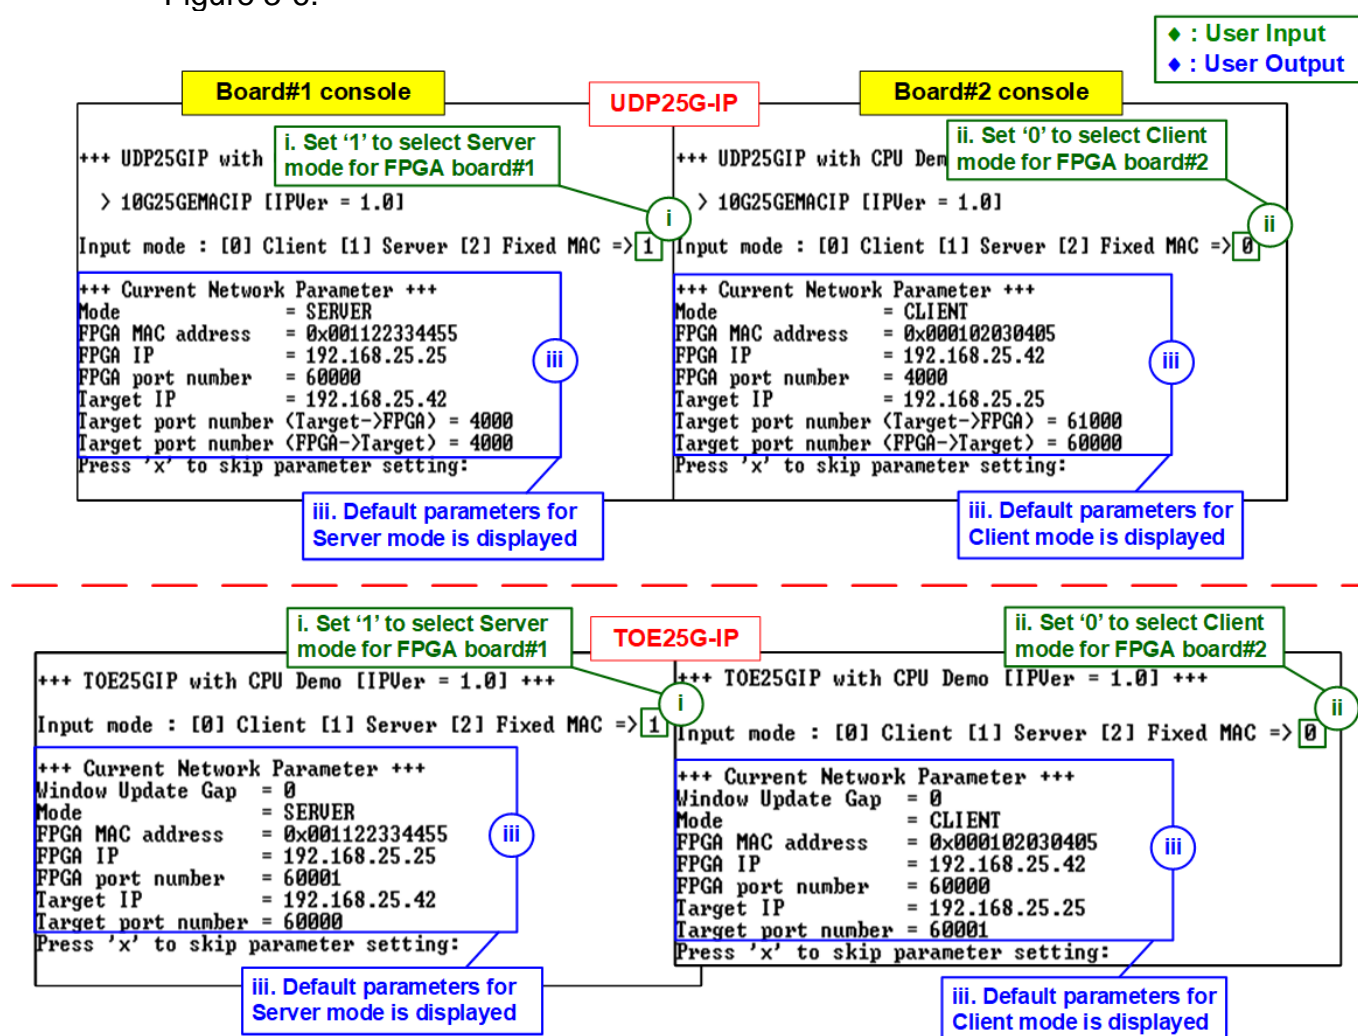

Figure 3-6 Input mode
- iii) Default parameters for Server or Client are displayed on the console, as shown in Figure 3-6.